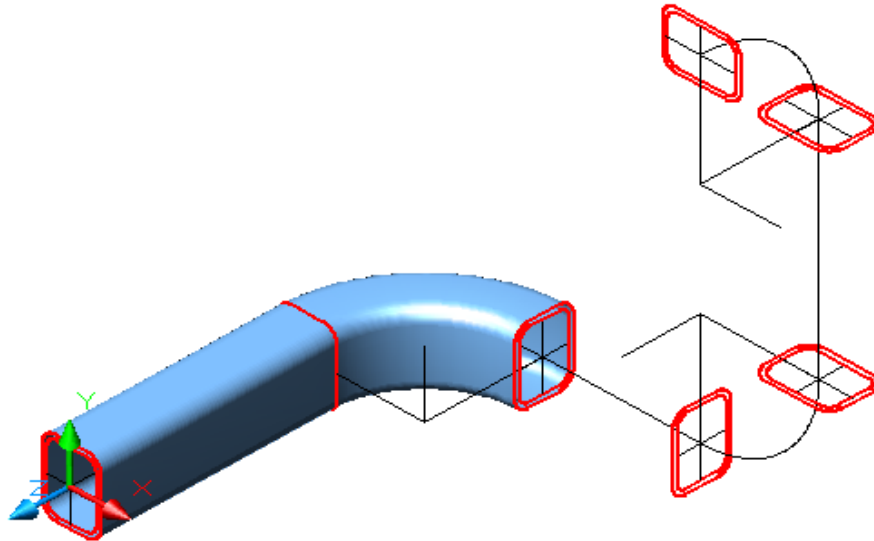

Figure Step 15
Step 15 Using what was just taught, construct the outside of the tube and change the layers of the surfaces until the model appear as shown in the figure. (Figure Step 15)